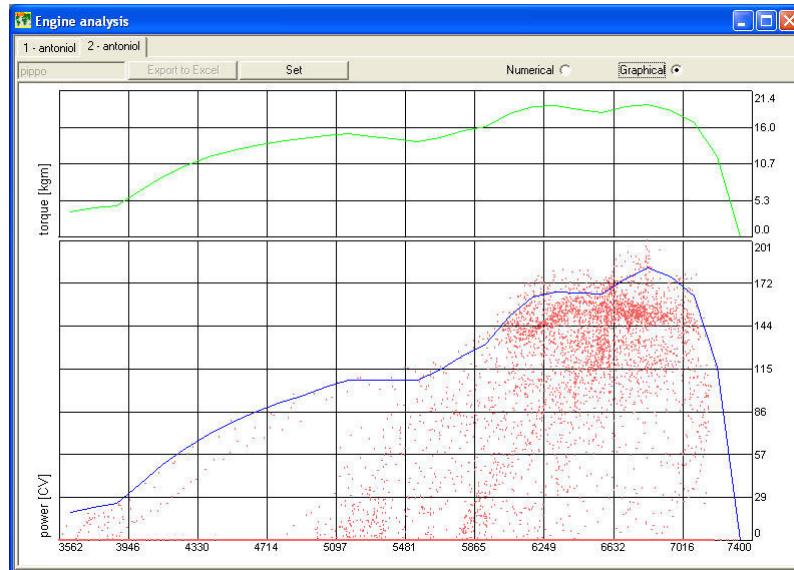

Fig. 6.18– *Engine RPM analysis* window: Graphical compare - Power and Torque diagrams
- Insert the setting name inside (2);
- Press button Save (7).
Now you may press button Set (4) in order to visualize the engine's **power** and **torque** diagrams, as shown in Figure 6.18.
The **torque** diagram, green coloured, is shown in the upper part of Figure 6.18.
The **power** diagram, blue coloured, is shown in the lower part of Figure 6.18. Together with the power diagram, it is shown (red spots) the experimental values corresponding to the engine's power.